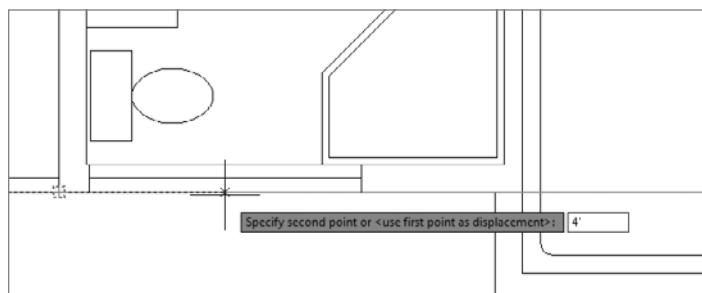

FIGURE 7.41 Setting the Copy command's second point 4' (1220 mm) from the corner
9. Move the cursor directly to the right, and enter **4' ↴ (1220.↓)**, as shown in Figure 7.41.